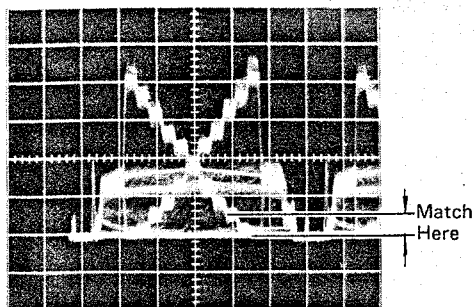

Fig. 6-4-41
- Adjust RED PEDESTAL VR305 so that the R signal matches the  $Y_L$  signal in the 0~2nd step of gray scale waveform. (Fig. 6-4-41)